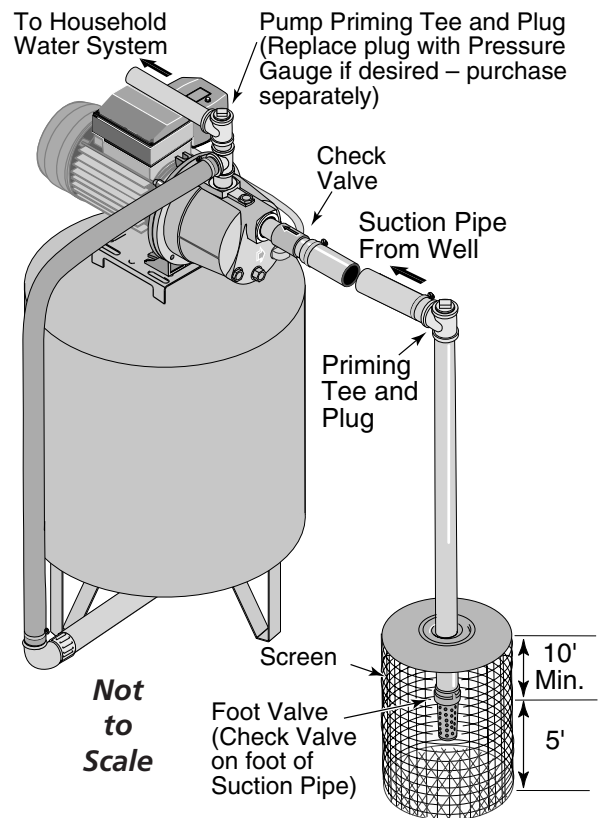

Figure 3 - Surface Water Installation
## INSTALLATION FOR SURFACE WATER (FIGURE 3)
2. Assemble a foot valve and suction pipe (see Figure 3). Make sure that the foot valve works freely. Use teflon tape on threaded pipe joints. Protect the foot valve assembly from fish, trash, etc. by installing a screen around it (see Figure 3).
4. Install a priming tee, priming plug, and suction pipe to the pump (see Figure 3). Support the pipe so that there are no dips or sags in the pipe, so it doesn't strain the pump body, and so that it slopes slightly upward from the well to the pump (high spots can cause air pockets which can air lock the pump). Seal the suction pipe joints with teflon tape. Joints must be air-tight and water-tight. **If the suction pipe can suck air, the pump cannot pull water from the well.**